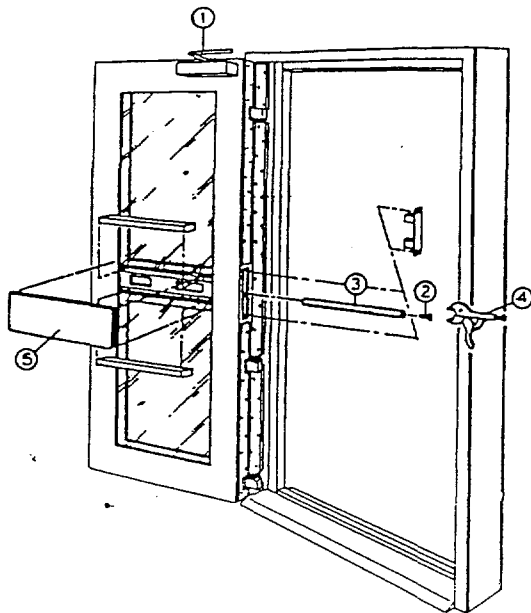
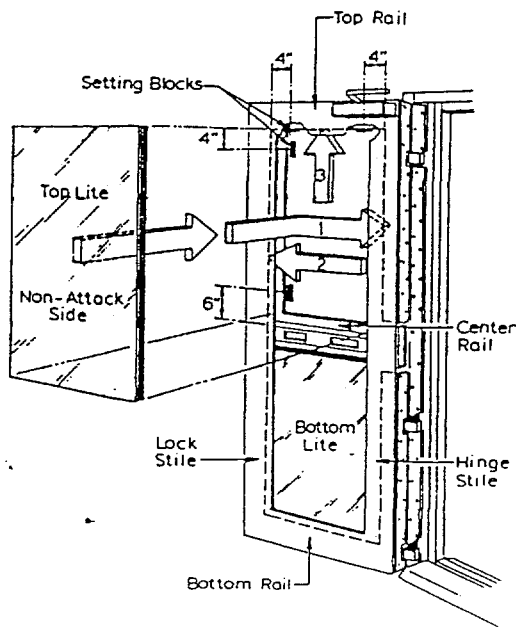

Figure 5.
Figure 6.
2. Disconnect the closer arm (1) from the frame and fully open the door as shown in Figure 5. Insert a 3/8"-16 screw (2) into the threaded end of the glazing rod (3) located in the hinge stile, or edge, of the door. Grip screw head (2) with Vise-Grip pliers (4) and pull out the glazing rod (3). Remove horizontal glazing stop (5) and set aside.
3. Remove the 1 3/4" (44 mm) x 1" (25 mm) glazing spacer bar (6).
6. Place two (2) setting blocks each, 1/2" (13 mm) thick x 4" (102 mm) long, in glazing pocket of the lock stile, the top of the top glazing pocket and the bottom of the bottom glazing pocket as shown in Figure 6 for double vision doors. Single and full vision doors have two (2) setting blocks in the lock stile pocket and two in the bottom pocket.
8. Apply suction cups to the **glass surfaced side only** and insert the edge into the deep glazing pocket of the hinge stile using the jiggle method if insertion as shown in Figure 6. Be sure to have the attack, or threat side, of the glazing on the proper side of the door. Care should be taken not to strike the glass against the steel walls of the glazing pocket. Once the glass is fully engaged into the hinge side stile glazing pocket of the door, then slide the glass sideways into the shallow lock side stile glazing pocket until it rests against the lock side stile setting blocks.
9. **For a double vision door, upper lite** (as shown in Figure 6): raise the glass to rest against the top rail setting blocks and insert the glazing spacer bar (item 6, Figure 5) under the glass and place two 1/4" (6 mm) x 4" (102 mm) setting blocks between the edge of the glass and the glazing spacer bar. Apply silicone to these setting to hold them in place. **For a double vision door, bottom lite** (as shown in Figure 6): Follow the same procedure of jiggle glazing as used to insert the top lite, except the bottom lite must be lowered down into the bottom glazing pocket and onto the setting blocks. Insert the glazing spacer bar above the glass and put two 1/4" (6 mm) x 4" (102 mm) setting blocks between the glass and the glazing spacer bar. Insert horizontal glazing stop into holes provided and insert the glazing rod through the hole in the to secure the stop. Apply shims to side spacer (item 7, Figure 5) with silicone and install into the hinge side edge.